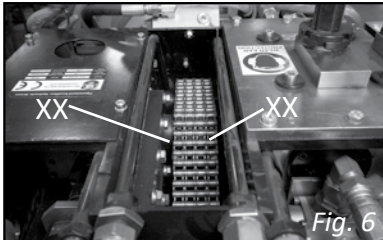

Fig. 6
Tip: If a position change is required, remove the four Socket Head Cap Screws (R, Fig. 6), fit wheel supports in the proper slots for the diameter being cut and reinstall the screws.
- A. Thread the Drive Chain (T) through the machine and onto the Drive Chain Sprockets (Fig. 6, xx). Refer to Table 1, page 6